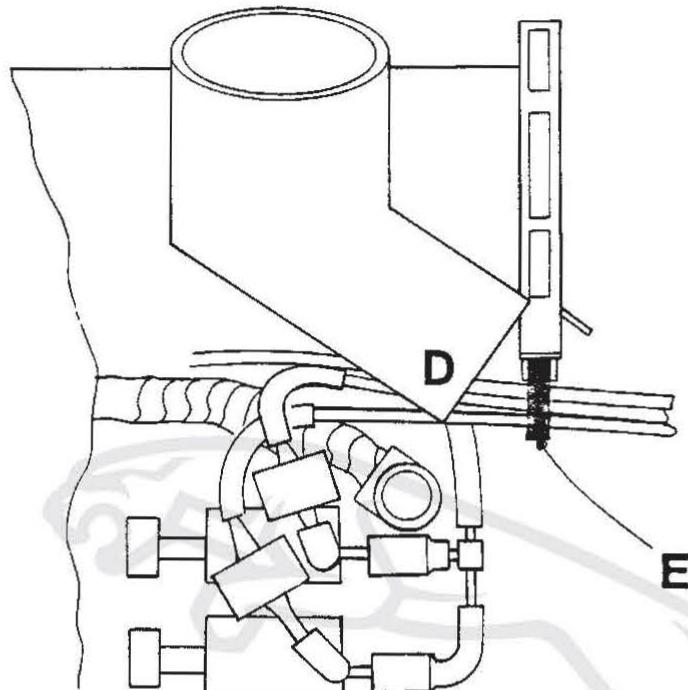

FIG 4
14. Re-route the black, green and yellow vacuum pipes and run above the footwell outlet duct (Fig 4 D), secure to the lower microprocessor mounting lug using plastic tie strap, Part No. ADU 9028 (Fig 4 E).
15. PLEASE NOTE: Fig 4 is viewed from the underside of the heater air conditioning unit.